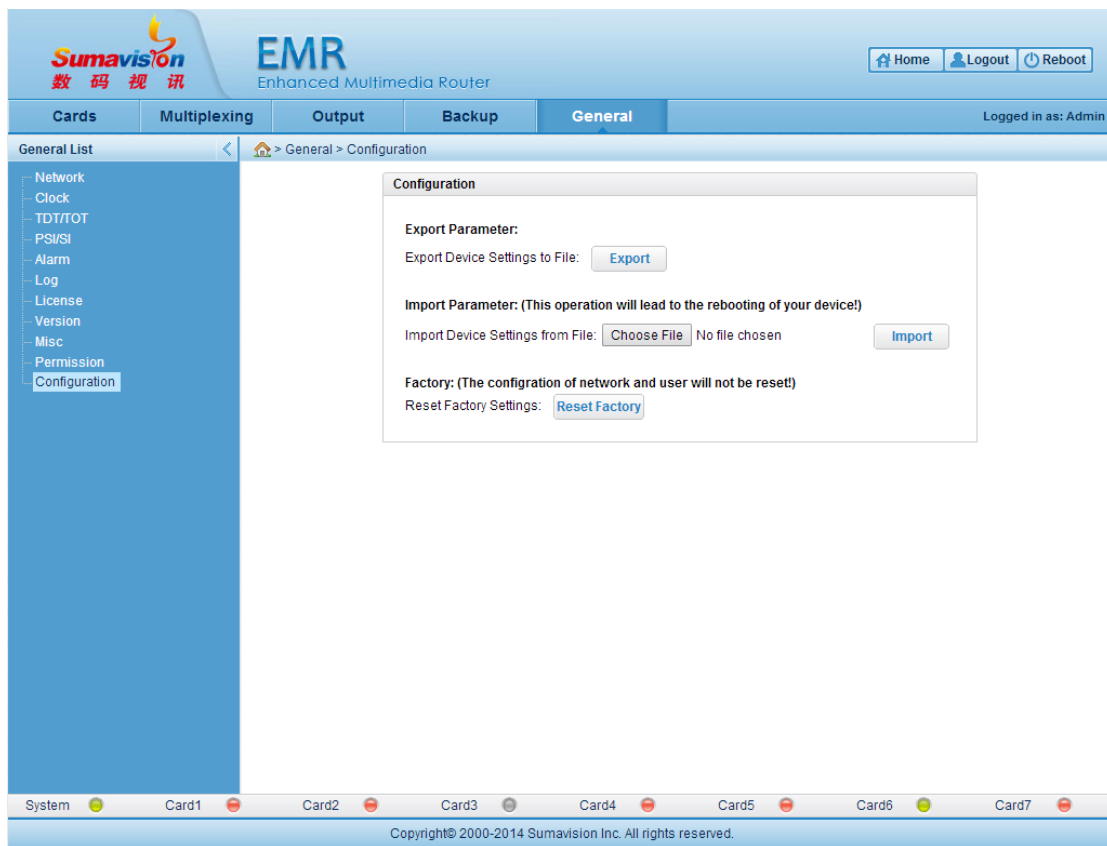

Fig. 5-13 WEB Management Parameter Configuration
- Configuration: this page is used for inputting and outputting equipment parameter and recovering the parameter to the default value, as shown in Fig. 5-13 WEB Management Parameter Configuration